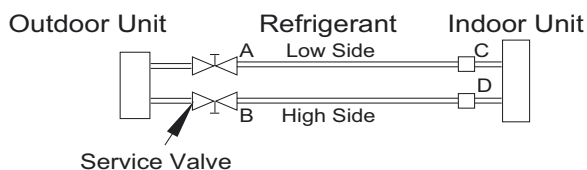

Fig. 20 — Service Valve
1. Completely tighten flare nuts A, B, C, D, connect the manifold gage charge hose to a charge port of the low side service valve (see Fig. 20).